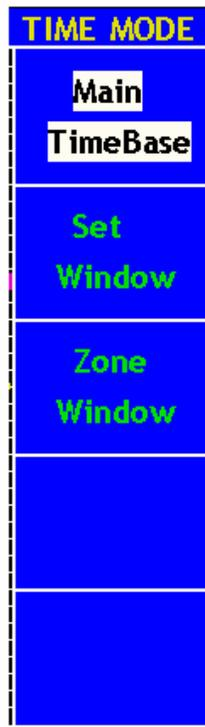

Fig. 22 Time Base Mode Menu
3. **HORIZONTAL NENU** button: with this button pushed down, the screen shows the operating menu (see Fig. 22).